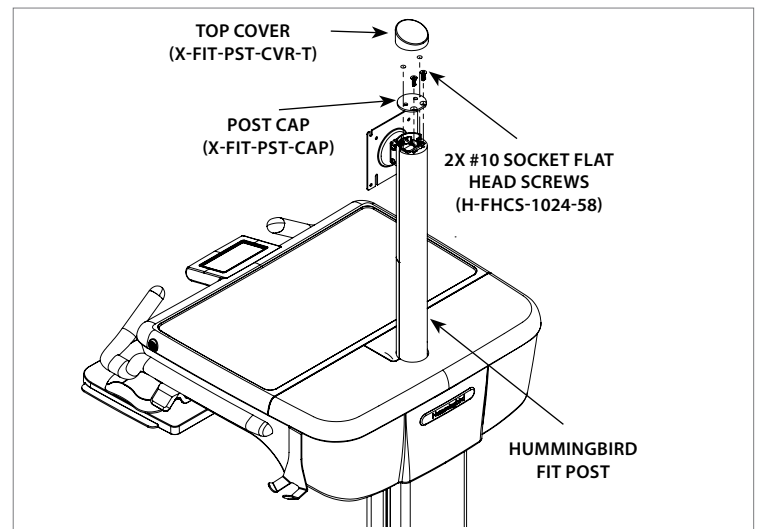

Figure 2
2. Removed the **TOP COVER (X-FIT-PST-CVR-T)** from the **HUMMINGBIRD FIT POST** and unscrew the 2x **#10 SOCKET FLAT HEAD SCREWS (H-FHCS-1024-58)** to remove the **POST CAP (X-FIT-PST-CAP)**. Discard these screws (**Figure 2**).